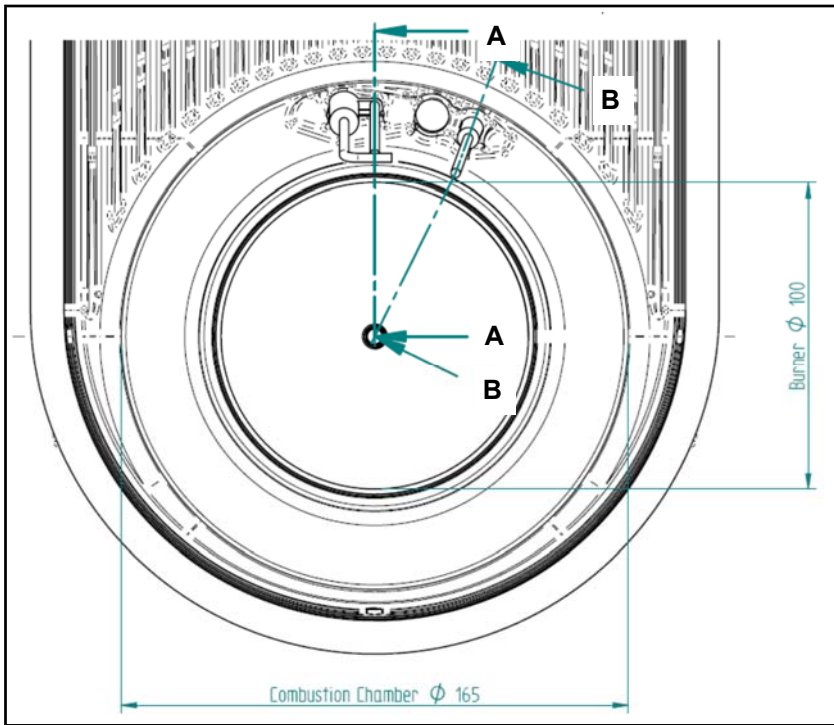

Figure 10.2 - Combustion Chamber
7) Remove and inspect H.T. electrode and flame probe, ensure they are free from debris or deposits. – See Figures 10.2. 10.2.1 & 10.2.2
To check the position of the electrode and probe in relation to the burner, remove the burner and refer to Figures 10.2. , 10.2.1 & 10.2.2